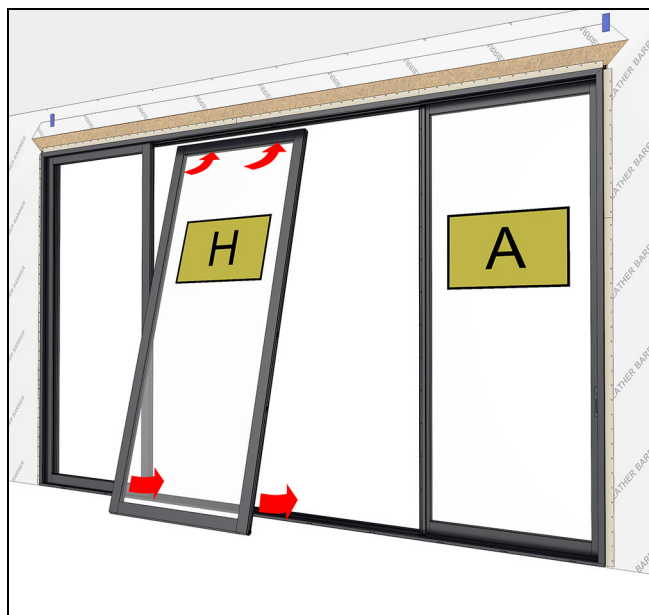

Figure 118 OOOX configuration shown.
8. Install the next (H) stationary panel. Slide the panel tight against the previous panel. See Figure 118.